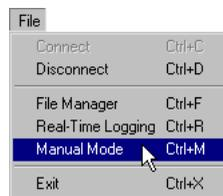

Figure 2-36. PCView: File->Manual Mode
2. Start PCView on your computer. Once a connection between the receiver and computer has been established, change PCView to **Manual Mode** (Figure 2-36).